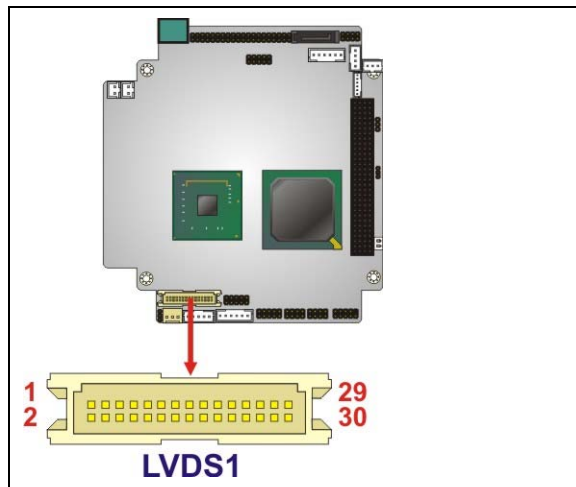

Figure 3-19: LVDS LCD Connector Locations
- CN Location:** See **Figure 3-19**